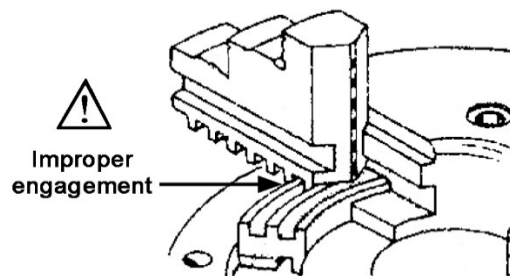

Figure 10-1
- Jaw teeth and scroll must be fully engaged, to prevent the jaws from breaking and being thrown from chuck. See Figure 10-1.